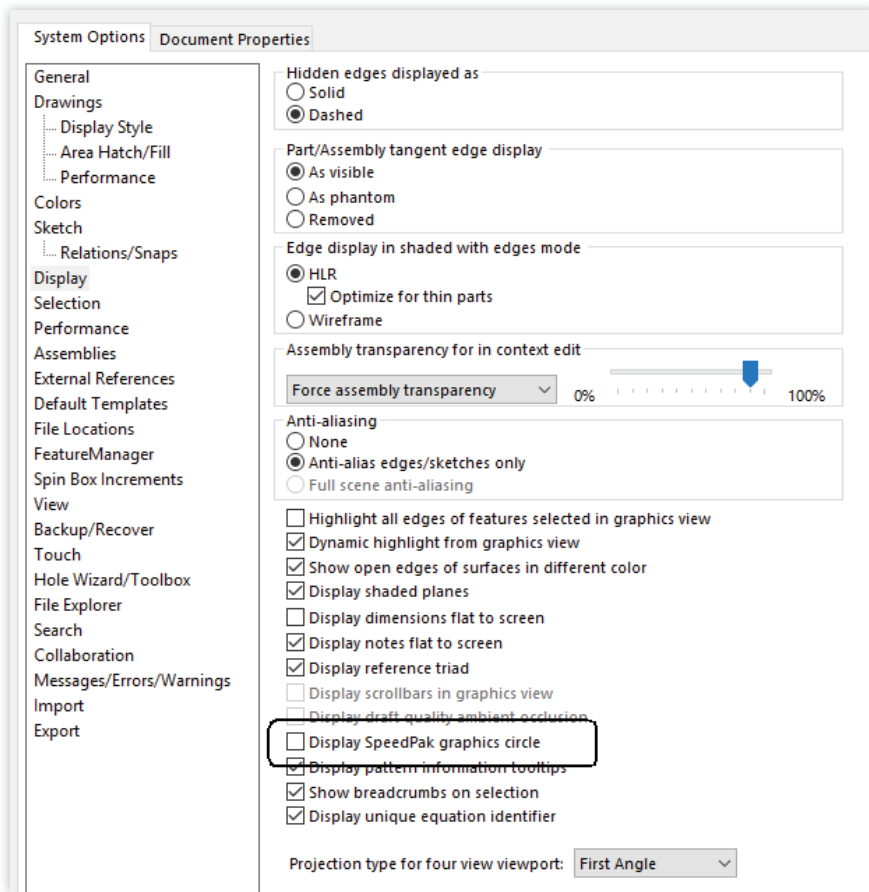

Fig. 20
4. The **SpeedPak** configuration is displayed under the **Default** configuration. See Fig. 20.